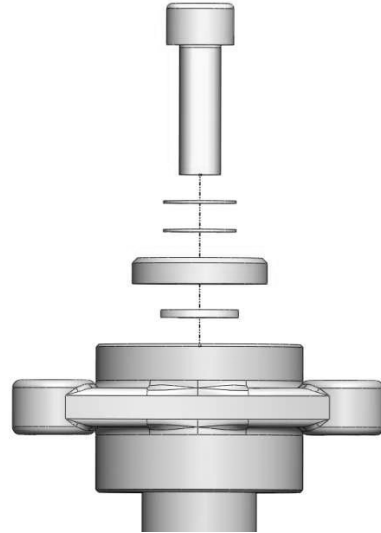

Figure 68. Remove the screw holding the wheel hub.
1. Remove the screw holding the wheel hub. See fig. 68.